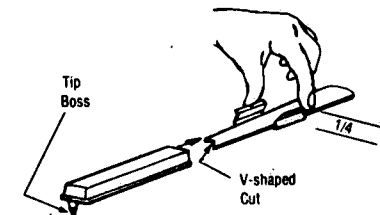

Figure 6-3. REPLACING INK CARTRIDGE.
5. Using thumb and forefinger, hold clip under pen arm as shown in Figure 6-3, then slide new cartridge into engagement with the clip. Release clip.